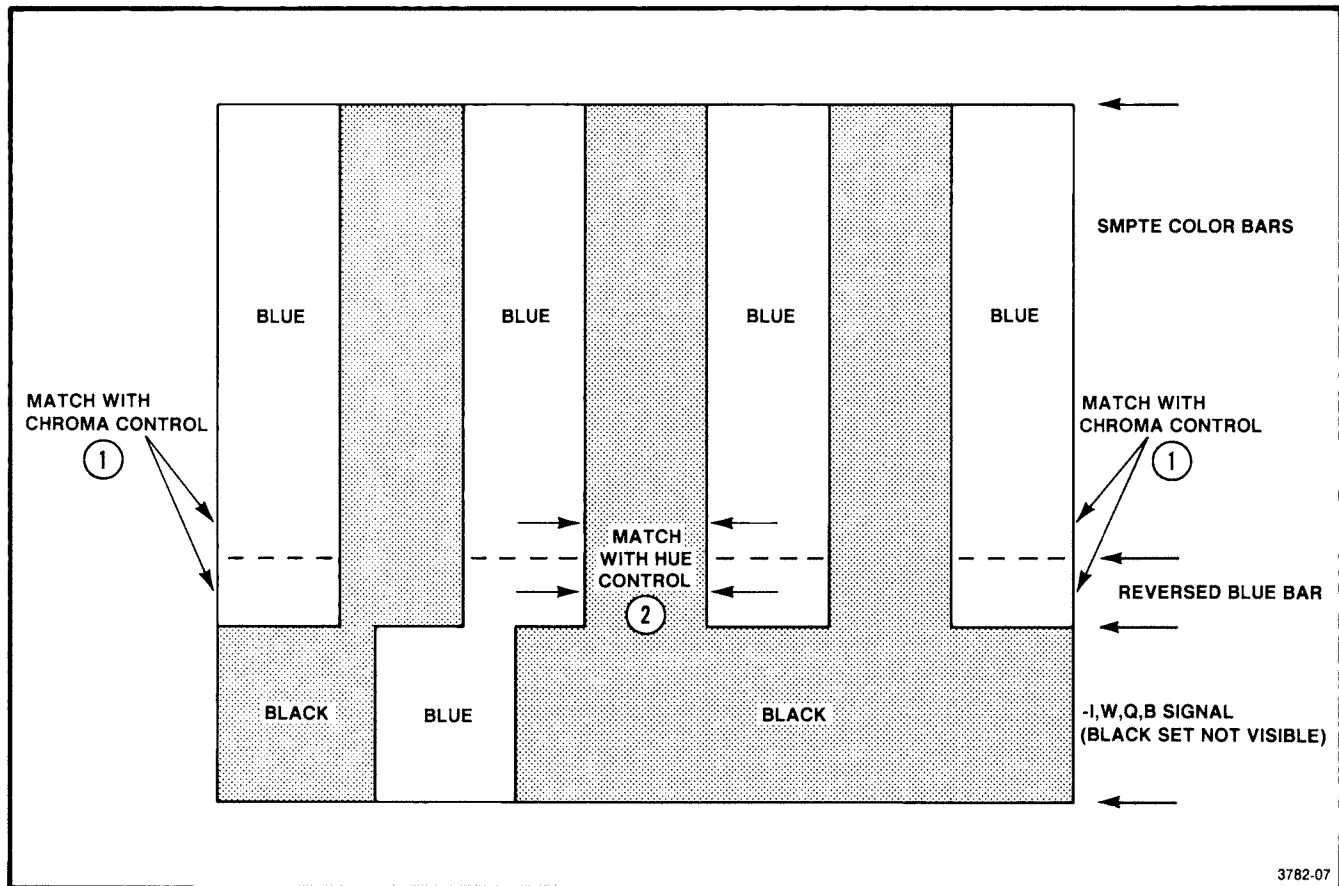

Fig. 1-7. Using SMPTE color bars signal to adjust picture monitor Chroma and Hue controls.
- Compare the extreme left or right blue bar with the reversed color bars segment directly below it. Adjust the monitor Chroma control until there is no color difference (See Fig. 1-7).
- Next, compare either of the center blue bars to the reverse color bars segment directly below it. Adjust the monitor Hue control until there is no color difference (See Fig. 1-7).